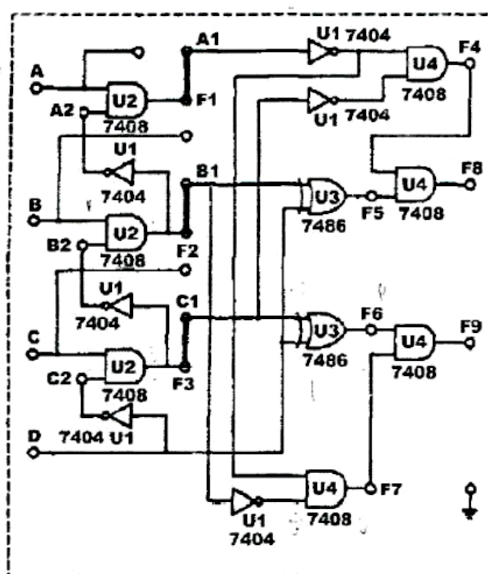

Fig. 2-65
5. Remove the connection clip between A and A1; insert it between A1 and F1 as shown in Fig. 2-65. All other connections remain the same. Follow the input sequences in Table 2-29 and record output states.